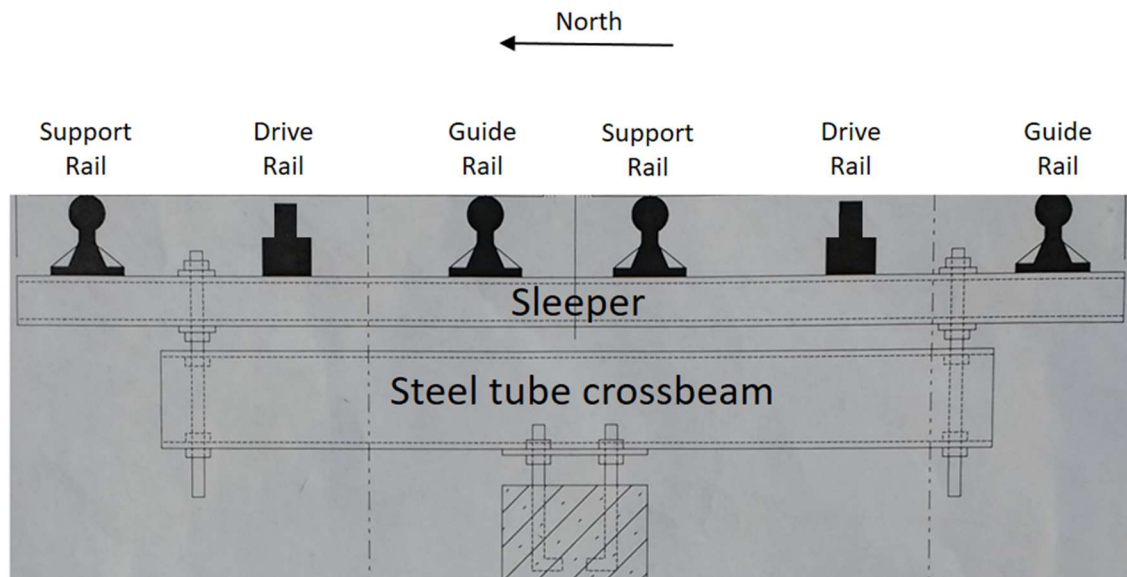

Figure 2. OPLE rails as seen from the beam sampling area looking east toward the end of the delay lines.
Since the height of the sleepers might be adjusted, and a sleeper supports two sets of rails, it is better to start the alignment with the set on the south side of the sleepers (S1, W1, or E2), where the guide rail is at the edge of the sleepers. See Figure 2. When the set of rails on the north side of the sleepers is going to be adjusted, the south side guide rail is close to the pivot point, so its height will not be affected that much.
- a. If the laser spot is too high on the target, raise the sleeper relative to the crossbeam (Figure 2). You need to loosen the top nut with a $\frac{3}{4}$ " fork wrench. Raise the bottom nut, also $\frac{3}{4}$ ", until the target reaches the level of the laser spot. Tighten the top nut, but not too much; there are spring washers under the top nut, leave some room for the spring to work.
- a. If the laser spot is too high or low on the target, adjust the sleeper under the cart primary relative to the crossbeam (Figure 2). Follow a similar procedure as described in steps 4.2.5 a and b. Make sure also that all those sleepers in the back touch the guide rail feet.